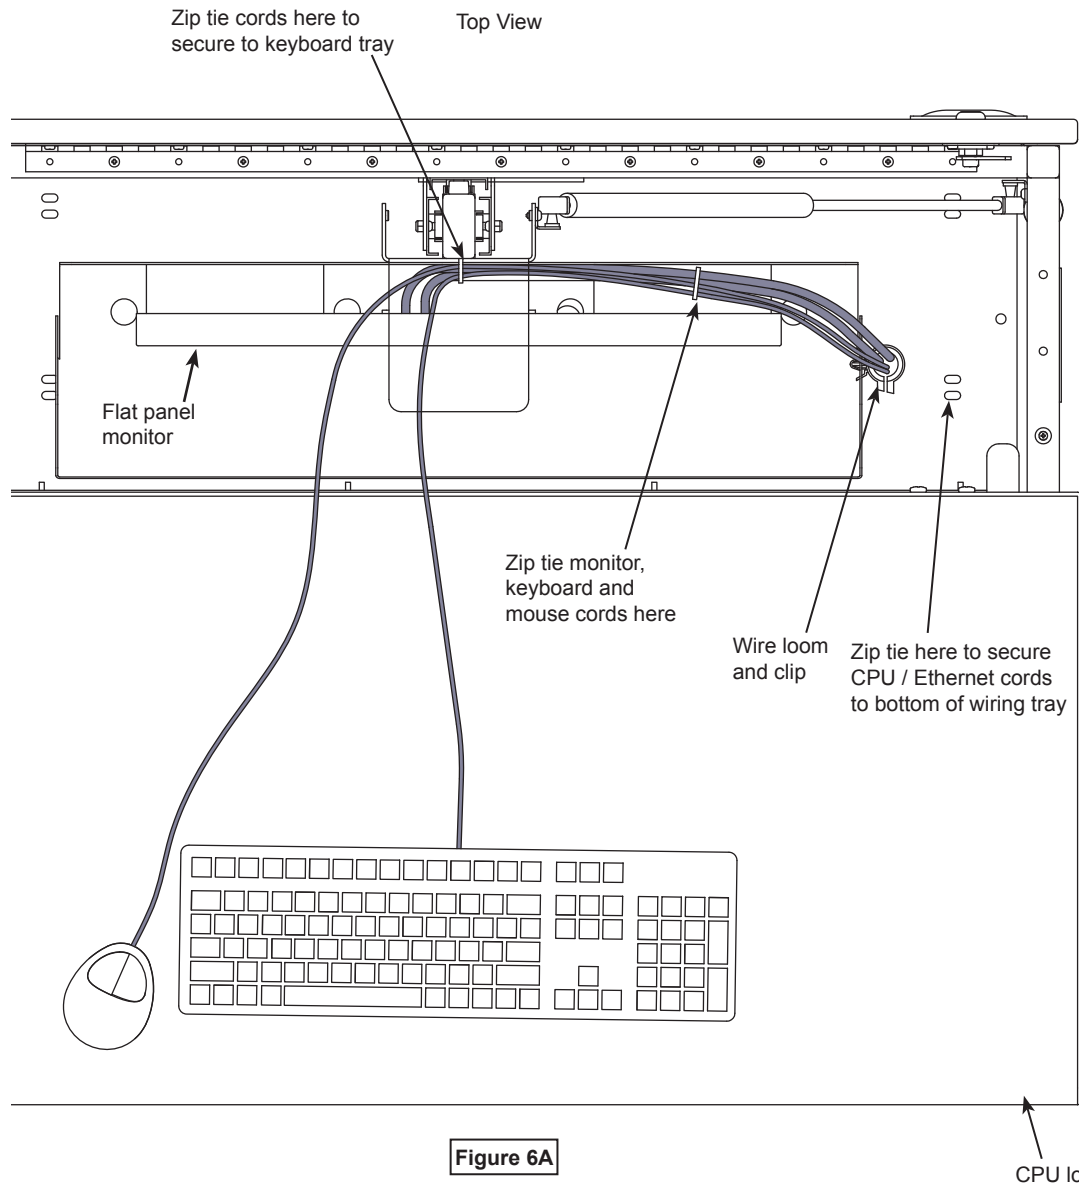

Figure 6A
2. Position the keyboard as shown approximately 6" from the front edge of the worksurface with the mouse on the opposite side of the CPU as shown. **Figure 6A**. This will provide enough slack in the cords during normal use and provide for left and right mouse locations. With zip ties, secure cords to the back of the keyboard tray as shown.